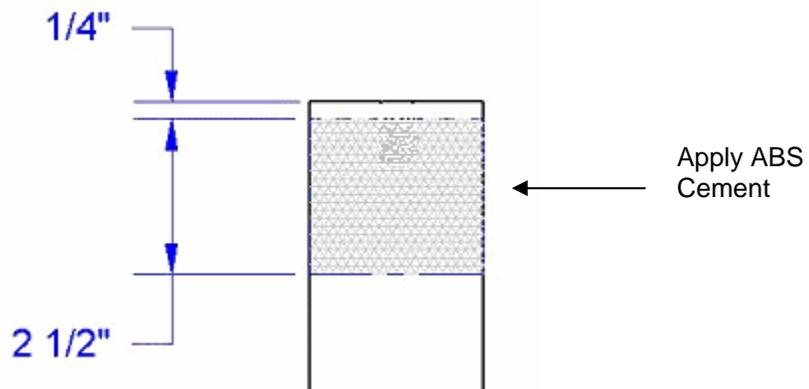

Figure 7 – Casing Preparation
2. Apply ABS 771 Cement to the inclinometer casing (Figure 7). The repair coupler will slide over top and the alignment tool will be used.